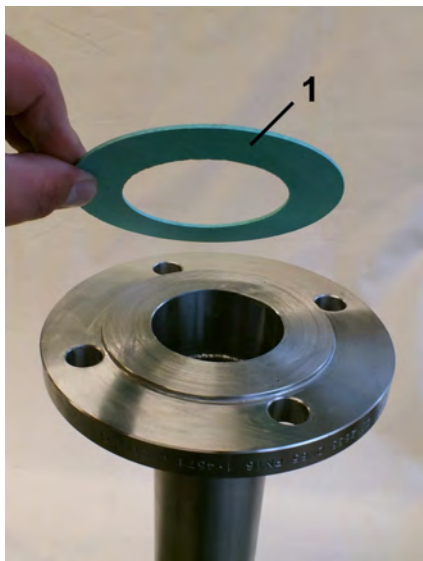

Fig. 9: Flange seal positioning
2. Position the flange seal (Fig. 9/1) centered on the connecting flange of the pipe line